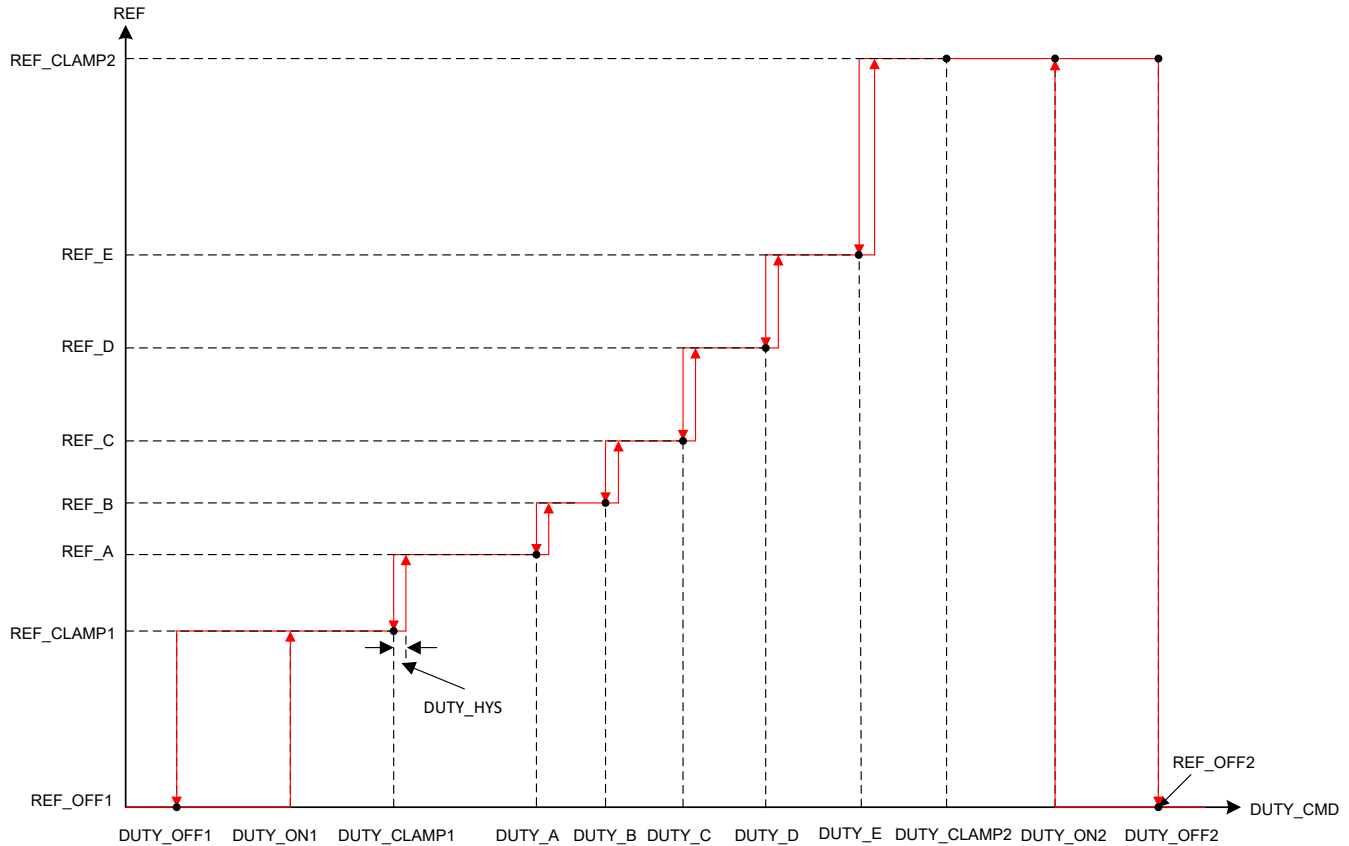

Figure 6-21. Staircase Control Profiles
- DUTY_OFF1 and DUTY_ON1 configures a hysteresis around reference control input REF_CLAMP1 and REF_OFF1 as shown in Figure 6-21.
- DUTY_A configures the duty command for reference REF_A. There is a step change in reference from REF_CLAMP1 to REF_A at DUTY_CLAMP1. DUTY_A to DUTY_E has to be in the same order as shown in Figure 6-21.
- DUTY_OFF2 and DUTY_ON2 configures a hysteresis around reference control input REF_CLAMP2 and REF_OFF2 as shown in Figure 6-21.